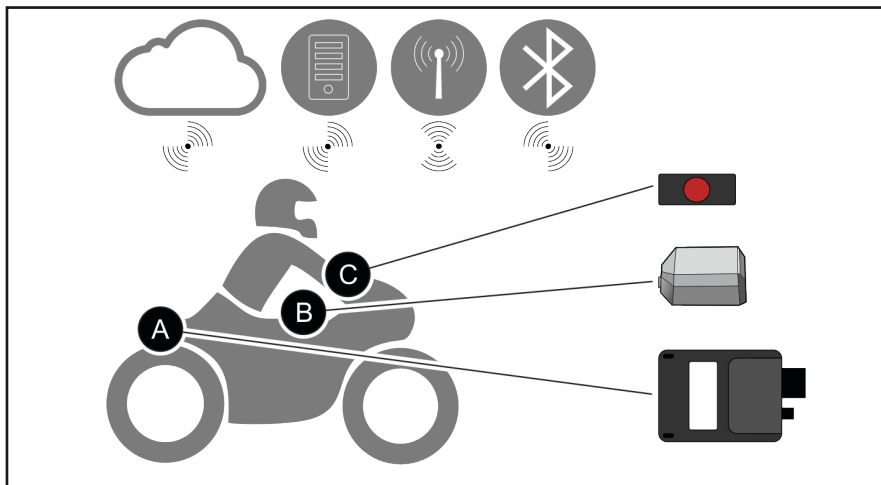

Fig. 2: Overview of the dguard® system
- The dguard® module (Fig. 2/A) automatically makes an emergency call in the event of an accident and manages the voice connections between your Bluetooth headset and the emergency coordination centre.
- The dguard® button (Fig. 2/C) is installed in the visible area. You can use it to make an emergency call manually at any time.
- The dguard® module (Fig. 2/A), the GPS antenna (Fig. 2/B) and the dguard® button (Fig. 2/C) are fixed to your motorbike.